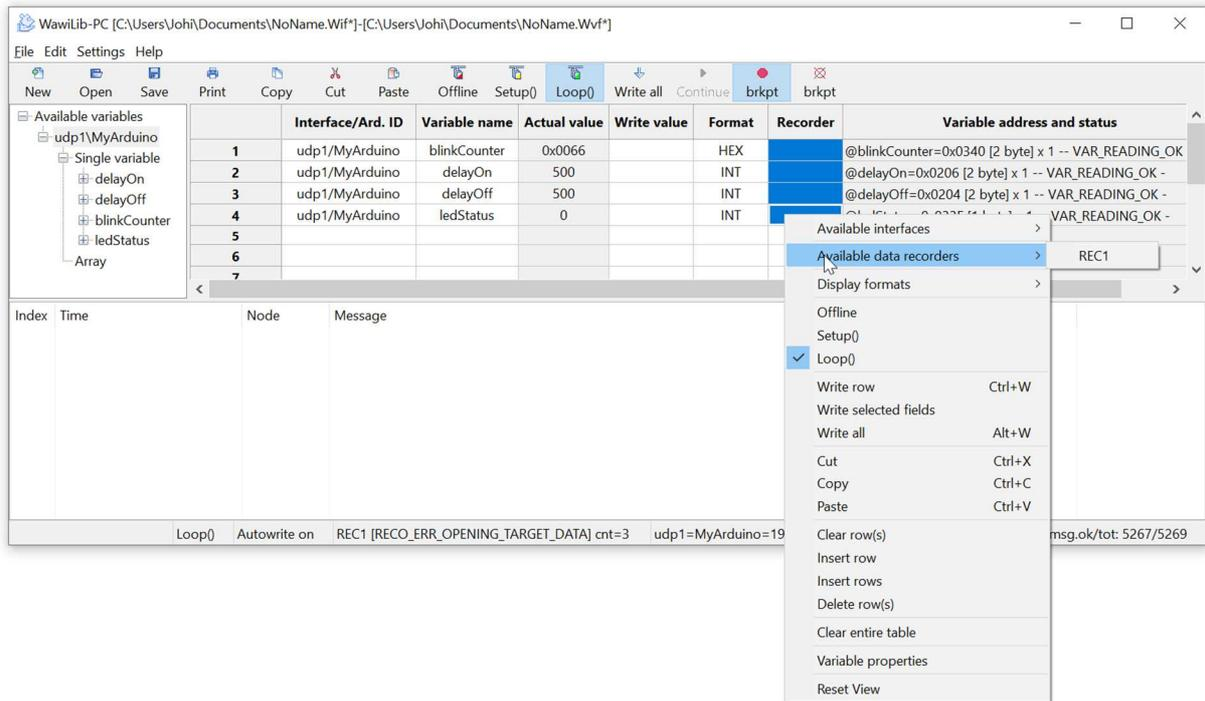

Fig. 8.3. Select a data recorder for all the variables.
- ✓ Fill in the table as in fig. 8.3.